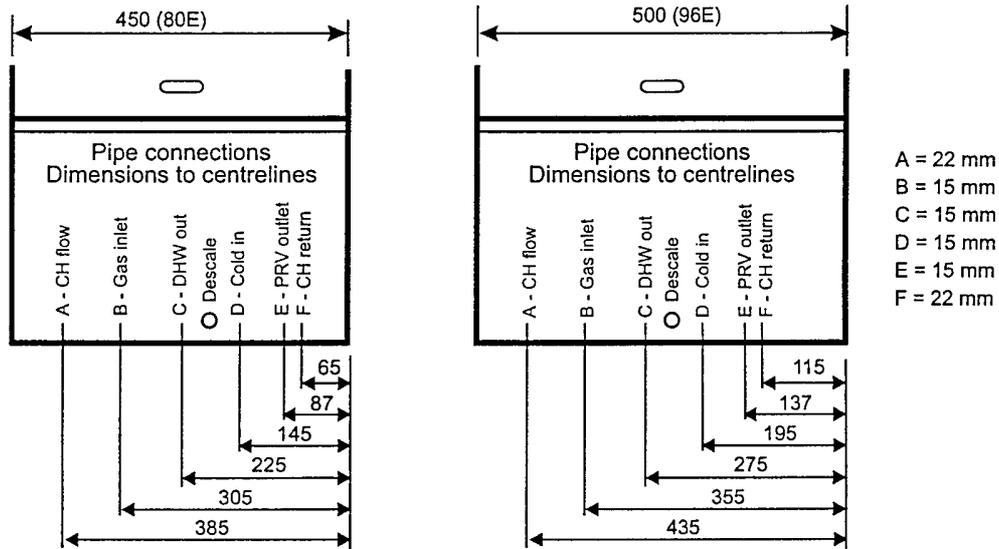

Fig. 2
2.9 WATER AND GAS CONNECTIONS (See Fig. 2)
3.4 CONNECT THE PIPE WORK (See Fig. 2 and section 14)